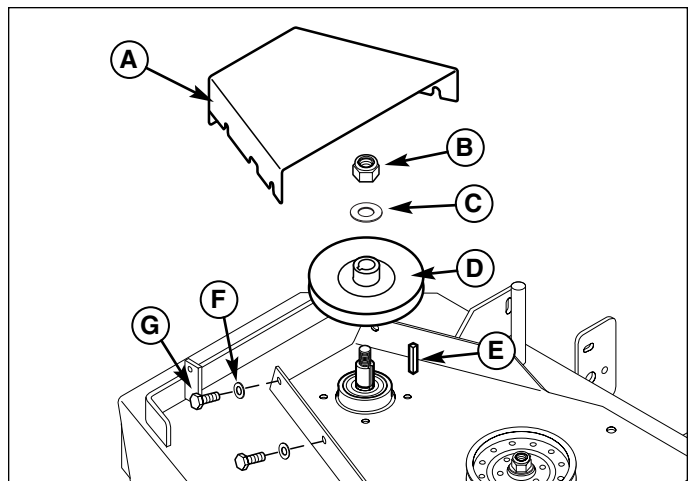

**Figure 2. PTO Mower Drive Belt**
1. Raise the floor pan and loosen the spring compression nut (A, Figure 2) to release the belt tension.
2. Reinstall the mower deck drive belt on the new spindle pulley. Tighten the spring compression nut (A, Figure 2) until the idler spring (B, Figure 2) is compressed to 1-5/8" (4,12cm) long. Be sure the measure the spring only.